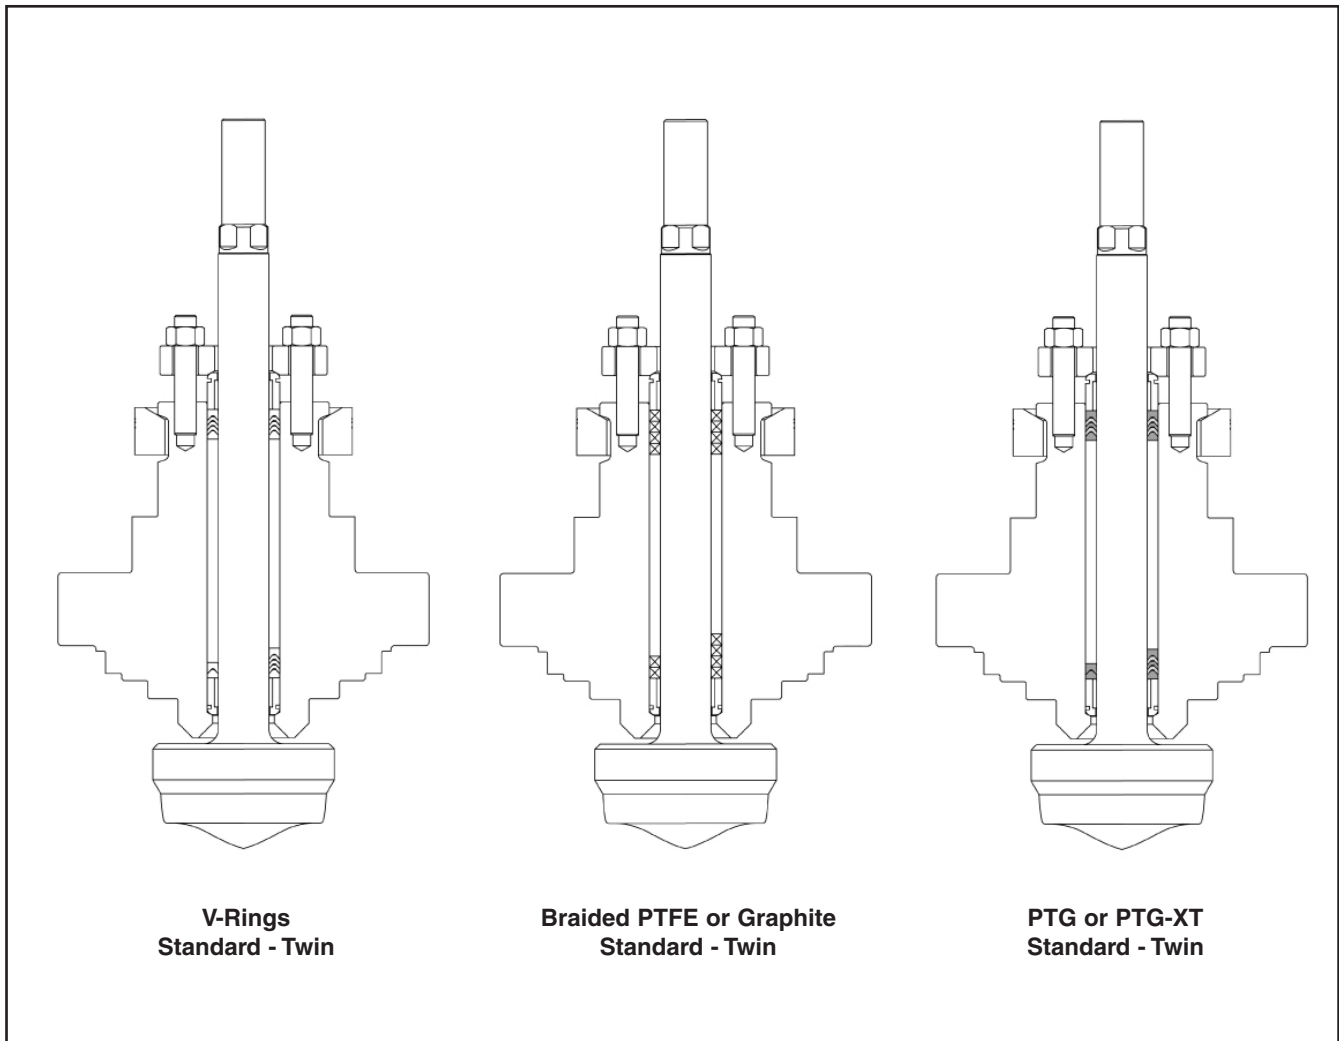

Figure 5 - GXL Typical Packing Configurations
- ▷ Replace guides with inserts, packing and spacer into the bonnet bore, one piece at a time, according to Figure 5, or as noted during the disassembling.